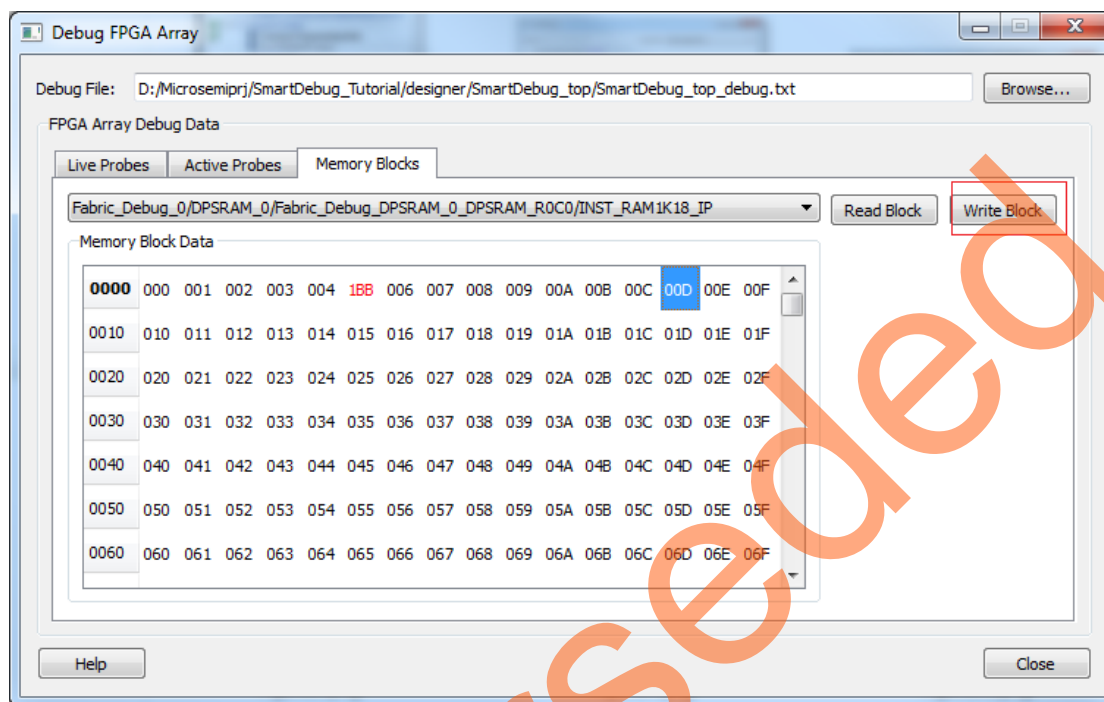

Figure 2-17 • Modifying DPSRAM Contents
7. Modify the value from the current value to break the count pattern, as shown in Figure 2-17.